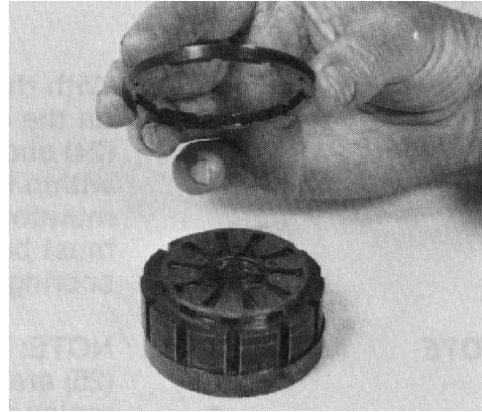

Figure 47
30. Remove the commutator ring (Fig. 47). Inspect for cracks, burrs and scoring.